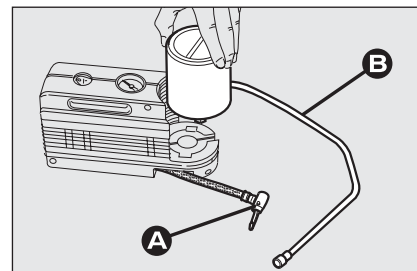

fig. 17
- ☐ disconnect connection **A**-**fig. 17**;